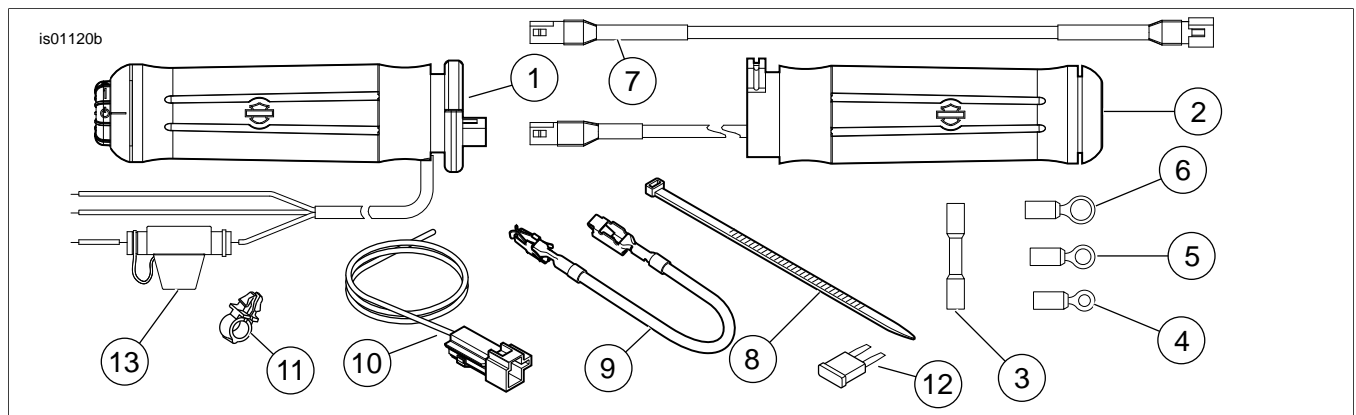

Figure 22. Service Parts, Heated Hand Grip Kits
1. See Figure 22. Select the correct ring terminal (4, 5 or 6) from the kit to fit the silver terminal stud (with the red wire) on the circuit breaker.
2. See Figure 22. Select the correct ring terminal (4, 5 or 6) from the kit to fit the silver terminal stud (with the red wire) on the circuit breaker.
2. See Figure 22. Plug the adapter harness (10) from the kit into the B+ connector.
4. Obtain a sealed splice connector (3) from the kit.
See Figure 22 and Table 1.